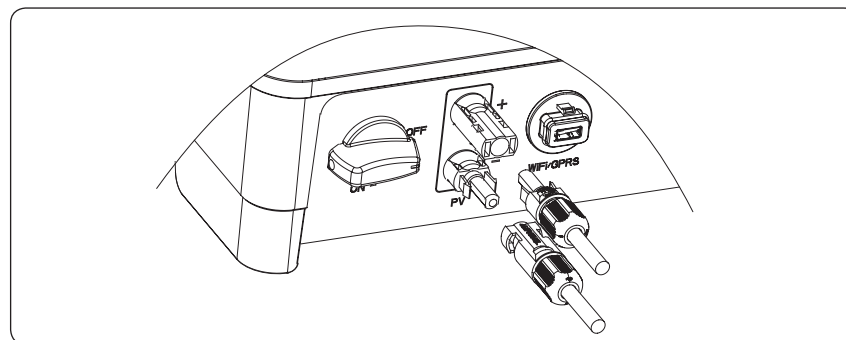

Figure 4-12
7) Insert the positive and negative connectors into the inverter DC input terminals respectively, and when you hear the "click" sound represents the assembly in place, as shown in Figure 4-12: